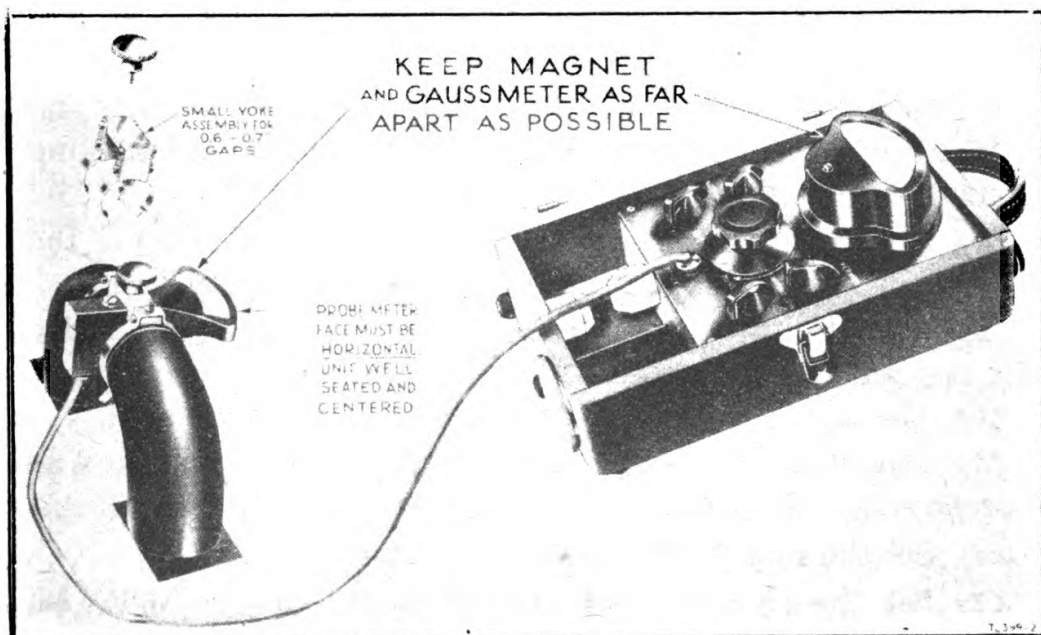

Figure 30. Use of Fluxmeter TS-15A/AP.
30. FLUXMETER TS-15A/AP (fig. 30).
(5) Turn the instrument on by rotating the OFF-MEASURE control and continue turning this control in a clockwise direction until the gauss meter pointer is aligned with the mark at 48 on the C scale.
(6) Turn the NORMAL-ZERO SET switch and hold it to the ZERO SET position. The gauss meter pointer should be aligned with the mark at 96 on the C scale.
(7) If the gauss meter pointer is not aligned with the mark at 96 on the C scale, note the position of the pointer in respect to the mark at 96. Then, turn the zero-adjusting screw on the front of the gauss meter to displace the pointer an equal amount on the opposite side of the 96 mark.
(8) Release the NORMAL-ZERO SET switch and readjust the OFF-MEASURE control to return the meter pointer to the mark at 48 on the C scale.
(9) Repeat steps (6) and (7) above until the gauss meter pointer is aligned with marks 48 and 96 on the C scale for the two positions of the NORMAL-ZERO SET switch.
b. Operation (fig 30). Instructions for measuring the flux density of the oscillator field magnet are given below:
(1) Open the modulator and remove the transmitting oscillator. See TM 11-1524, paragraph 917.